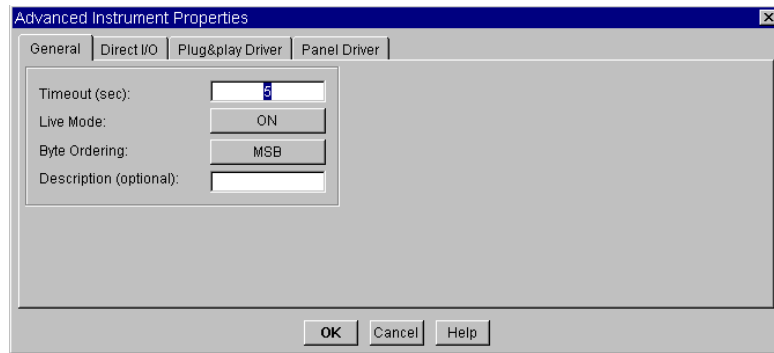

Figure 3-8. The Advanced Instrument Properties Dialog
3. Change the name to `scope`, leave all the other defaults as they are, and click `Advanced...` The `Advanced Instrument Properties` dialog box appears as shown in Figure 3-8.